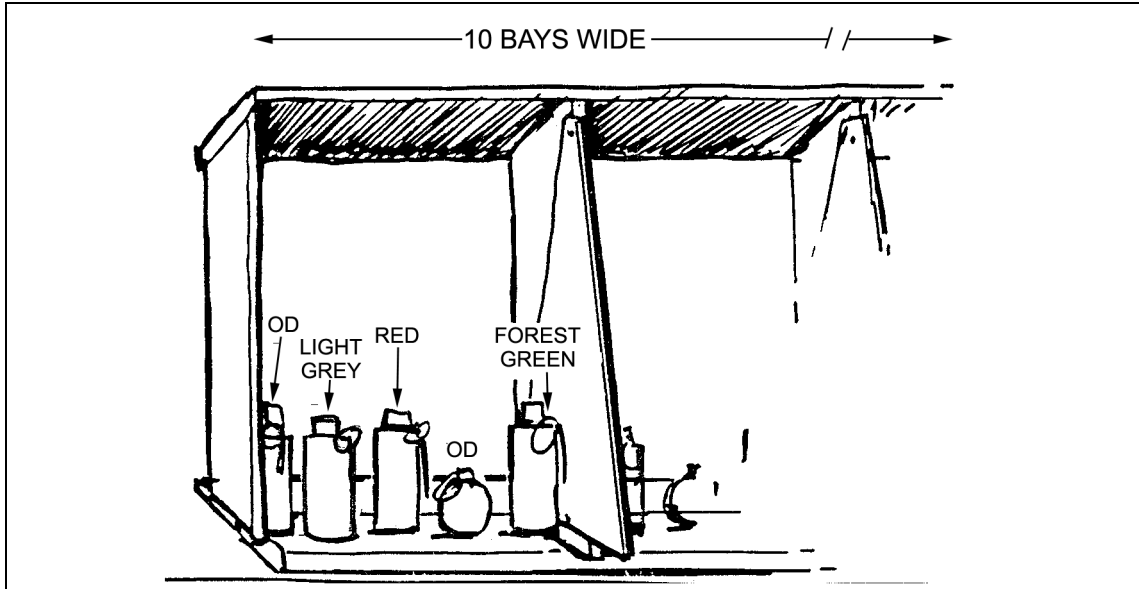

Figure 4-2. Suggested identification station.
- Station 7. Identify hand grenades. Soldiers must be able to identify grenades by shape, color, markings, and capabilities. (For a suggested identification station, refer to Figure 4-2.)